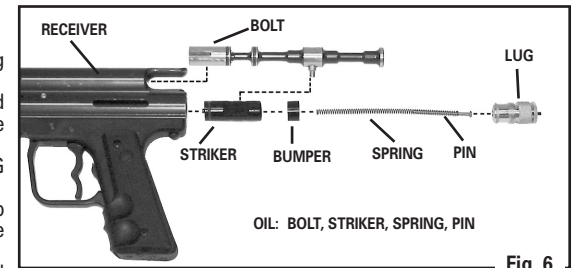

Fig. 6
- With the paintball marker "On Safe" (See Step 2A), and the CO₂ source removed (See Step 3B), unscrew the LUG. (Fig. 6)
- After drying, IMMEDIATELY oil the parts with paintball marker oil as indicated in Fig. 6. DO NOT use a petroleum distillate based oil or solvent as they can cause damage to your paintball marker.
- Assemble the BOLT and STRIKER together and push them back into the RECEIVER as shown in Fig. 6. IMPORTANT: You must be pulling the trigger at the same time in order for the parts to fit completely back into the RECEIVER.